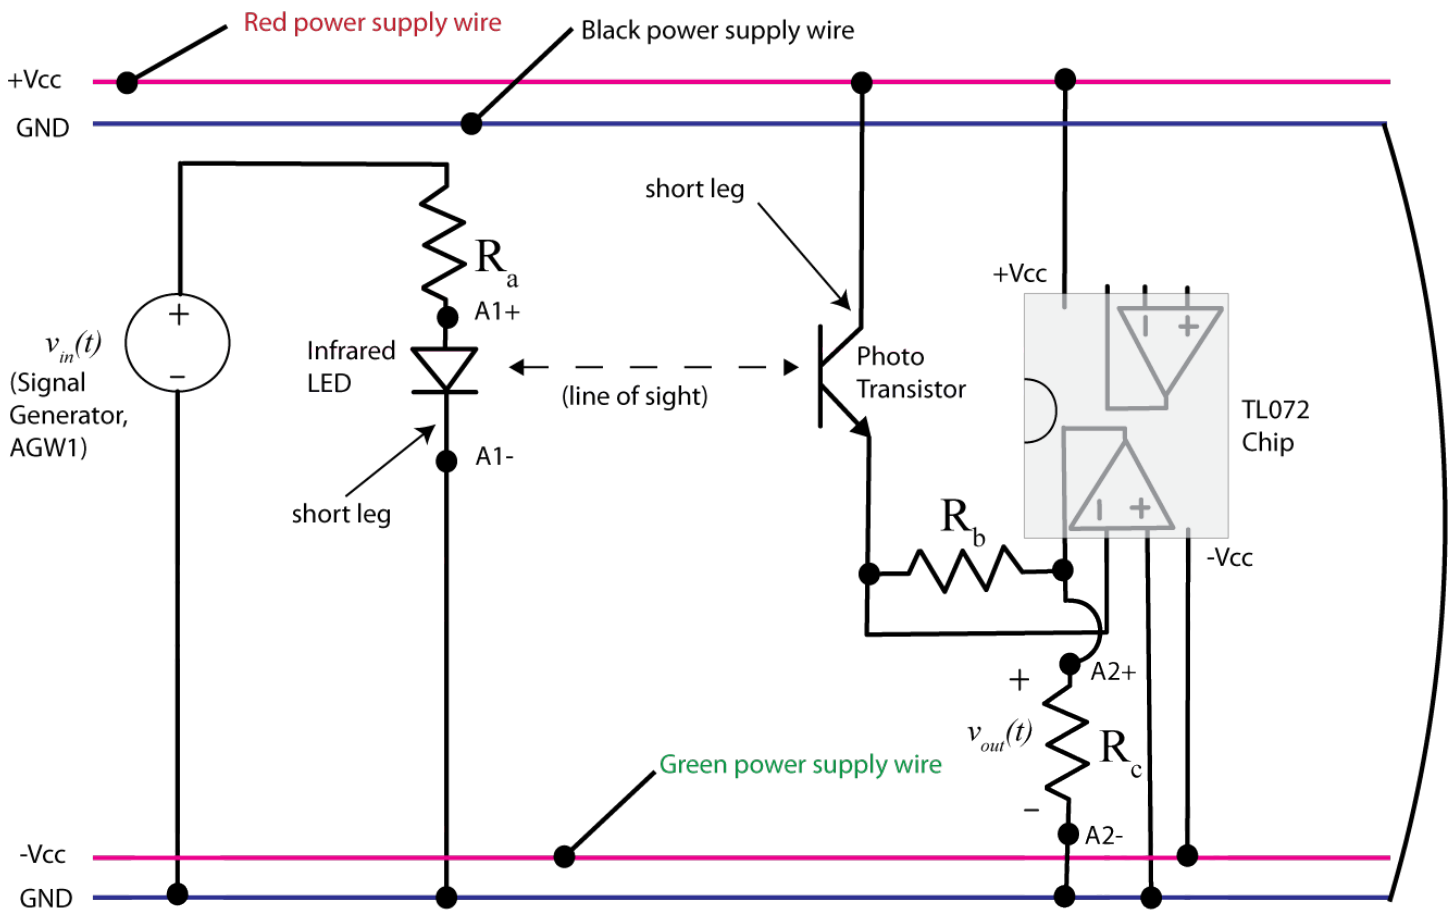

Figure 6. More detailed schematic of the optical transmitter and receiver.
Figure 6 shows a more detailed wiring diagram for building this circuit. You should lay out your breadboard in this fashion, with the red stripe at the top and the blue stripe at the bottom. Do not connect your external power supply to the system until you are all done. The top and bottom blue wires should be wired together, they serve as a common ground. The top red line will serve as the positive (+Vcc) voltage rail, and the bottom red line will serve as the negative (-Vcc) voltage rail.
1) First we will build the transmitter on the left of Figure 6. Use the infrared LED (the clear LED) and connect it to the Mobile Studio function generator through the $R_a = 51\Omega$ resistor. Be sure the function generator and the output of the LED are connected to ground. Try and build this as far to the left end of your circuit board as possible. Finally, connect A1+ and A1- to measure the voltage across the LED.
2) Next we will build the receiver, which should be built as far to the right as possible. Note that we are using an TL072 chip which includes two op amps on one chip. Be sure the dot on the chip is to the left (the semicircle on the drawing) and also to connect the power supplies correctly for this chip (they are different than for a 741 op amp!). Also be sure to connect the positive pin of the first op amp (the one we are using) to ground. Connect the rest of the circuit, using $R_b = 10k\Omega$ and $R_c = 1k\Omega$. Finally, the output of the receiver circuit is the voltage across the output resistor R_c , so connect A2+ and A2- as shown in Figure 6.